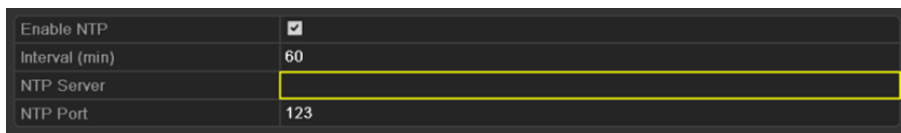

Figure 11. 15 NTP Settings Interface
2. Select the **NTP** tab to enter the NTP Settings interface, as shown in Figure 11. 15.